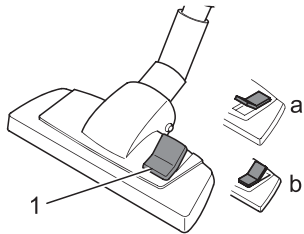

Fig.12
4. Set the nozzle switch to "carpet" or "hard floor" according to the floor (Fig. 12) to be cleaned:
- **Hard floor (Fig. 12/A)**
- **Carpet (Fig. 12/B)**